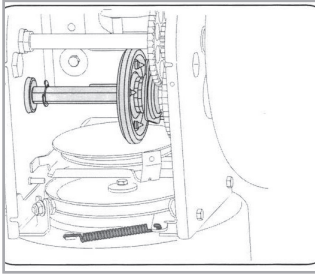

Fig.18
2. Apply a light coating of an all-weather multi-purpose grease to the hex shaft. See Figure 18.